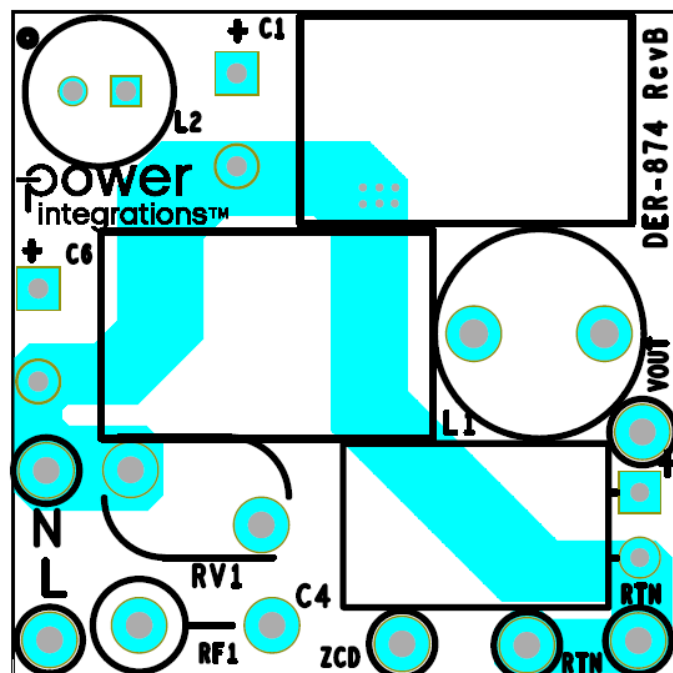

Figure 21. Example Printed Circuit Layout for LinkSwitch-TNZ High-Side Buck Configuration.
Figure 21 is printed circuit board layout design examples for the circuit schematic shown in Figure 12. The loop formed between the LinkSwitch-TNZ U1, freewheeling diode D2, and input capacitor C1 should be kept as small as possible. The BYPASS pin capacitor C2 should be located physically close to the SOURCE (S) and BYPASS (BP) pins. To minimize direct coupling from switching nodes, the LinkSwitch-TNZ should be placed away from AC input lines.